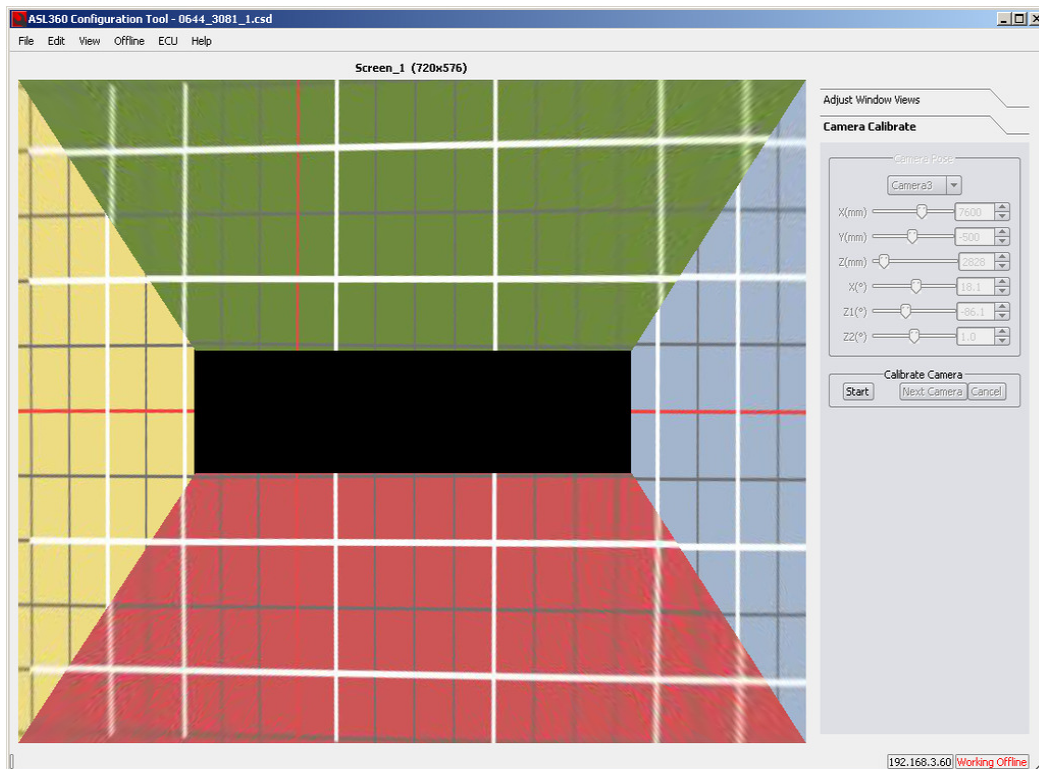

Figure 38 - Example of convergent lines – due to inaccurate measurement of front and rear cameras in the x axis
*If there are no line discontinuities and the lines are straight but **convergent**, this is a symptom of inaccurately measured camera positions in the x or y axis. See Figure 38 below.*